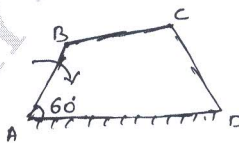

Fig. Q4
- 4 A pin jointed four bar mechanism 'ABCD' is shown in Fig. Q4.  $AB = 150$  mm,  $BC = 180$  mm,  $CD = 180$  mm and  $AD = 300$  mm. Link AB rotates uniformly at 100 rpm. Locate all the instantaneous centers and find the angular velocity of Link BC and Linear velocity of Link CD. (20 Marks)